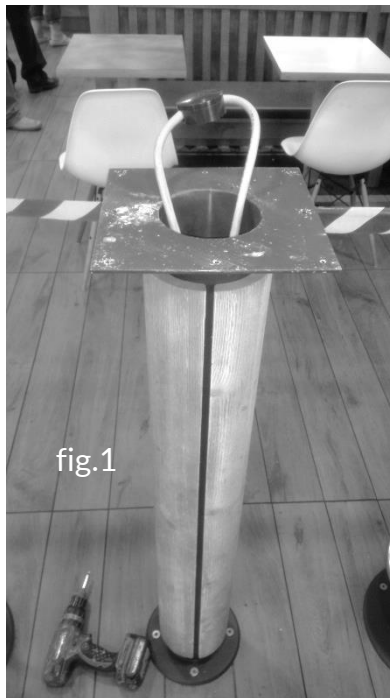

fig.1
1. Locate the two cables terminated by a terminal block (within the leg of the communal table – see fig.1). Access this space which requires the removal of the table top.